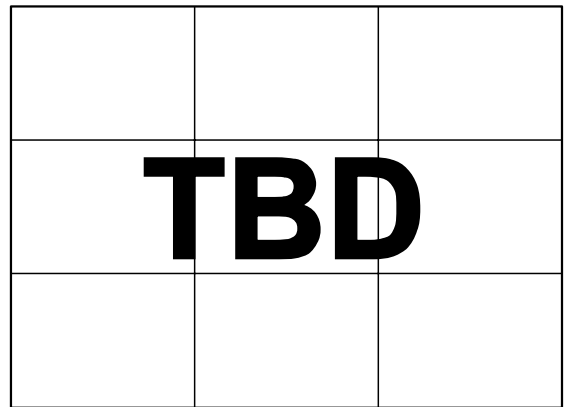

Figure 16. THD vs. Frequency
- For ac applications, the driver needs to have a THD performance suitable to that of the AD7687. Figure 16 gives the THD versus frequency that the driver should exceed.